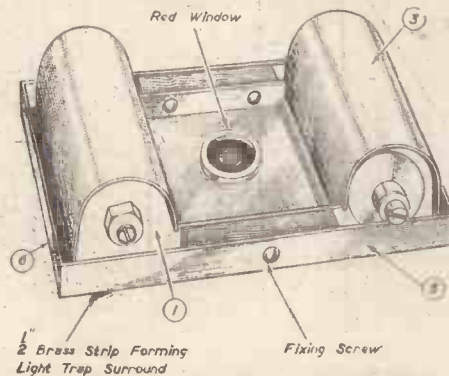
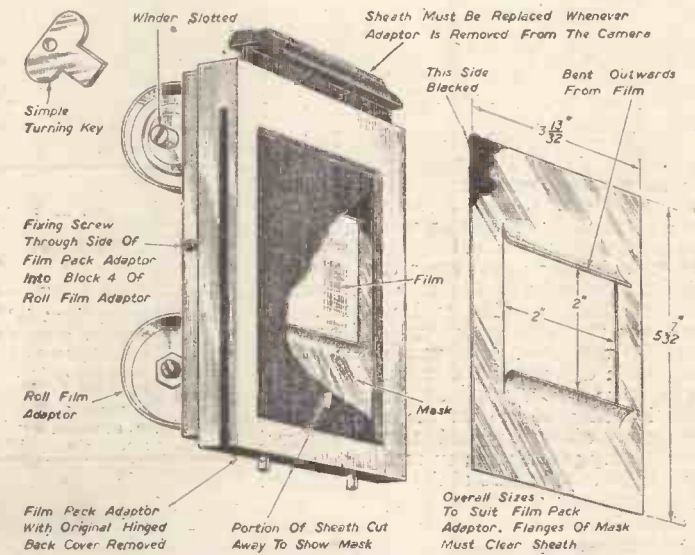

Fig. 1.—Back view of holder and enlarged detail of film winder.
Fig. 5.—The holder as it appears when fitted into a typical film pack adaptor; and details of the mask.
Three complete views of the holder are given in the drawings, from which the construction can be readily followed. Fig. 1 shows the holder from the back with the central red window. Fig. 2 from the front, whilst Fig. 5 shows the holder as it appears when fitted into a typical film pack adaptor and ready for sliding into the plate camera. In this latter view the removable light-tight sheath is shown partially cut away to show part of the film behind the aperture of the mask ready for exposure.
Two mahogany strips or blocks numbered (4) were then made, each fitting closely at the central point of the roll-film holder between the channel formed by its side plates and surround. These blocks are merely used to afford a grip to the small brass fixing screws screwed in from the outside of the film pack adaptor casing. The blocks themselves are secured from inside the side plates by two c/sk screws; these can be clearly seen in Fig. 1.
A mask was necessary to give the reduced picture size and this was cut from very thin gauge tin plate. Brass foil would also have been suitable for this fitment. The shape and size adopted is shown to the right of Fig. 5. Great care was taken in cutting out the aperture of the mask and in bending out the narrow flanges. The latter were necessary to avoid scratch of the film as this passed across the aperture between each exposure. These flanges were, of course, bent outwards from the film surface and as these slight projections had also to clear the dark slide or sheath, the angle of bend was very small and quite critical. As the writer's camera is a reflex a similar mask made from black paper was fitted over the ground glass inside the viewing hood.
It will be noticed from the drawing Fig. 1 that the original turning lugs of the winder have been sawn off and turning of the film is accomplished by a screwdriver or the simply made turning key shown in Fig. 5.